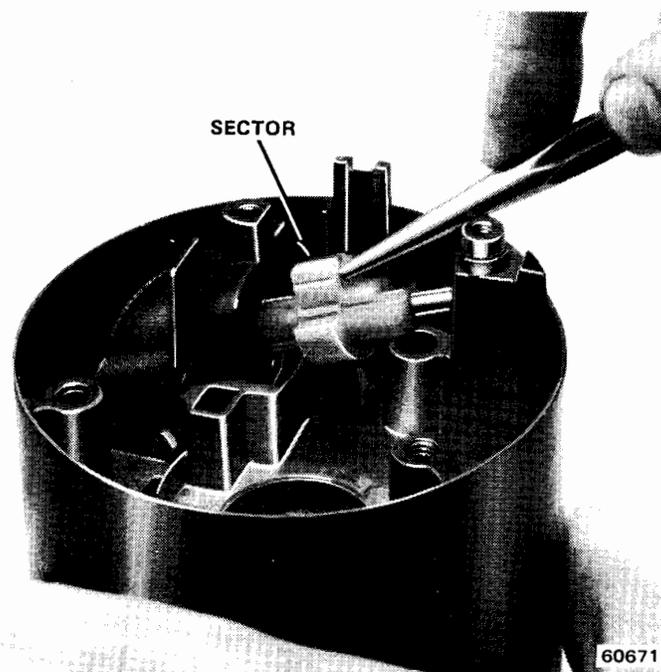
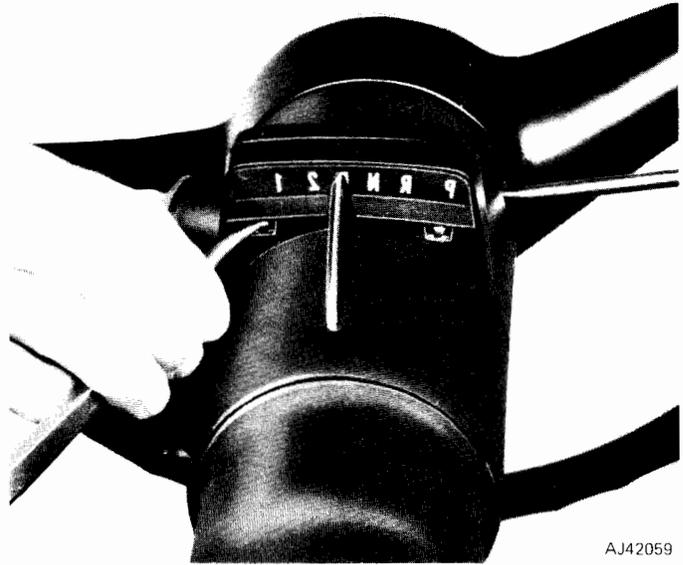

Fig. 11-17 Removing Sector
Fig. 11-32 Retainer Clip Removal
(21) Remove sector through lock cylinder hole in housing. Push on block tooth of sector with blunt punch to remove (fig. 11-17).
(23) If sector gear requires service, note position of sector on shaft for assembly reference and remove by driving shaft out of lock cylinder hole with punch (fig. 11-17).
(24) Remove shift gate lock from upper housing. Examine shift gate lock detents for wear; replace if excessively worn.
(25) Remove shift quadrant. Quadrant is retained by two clips which must be pried out with small punch (fig. 11-32).
(26) Remove shift quadrant light cover, remove screw which retains socket assembly, and remove assembly.
NOTE: Quadrant is retained by a spring clip which may be removed with long-nose pliers (fig. 11-32).